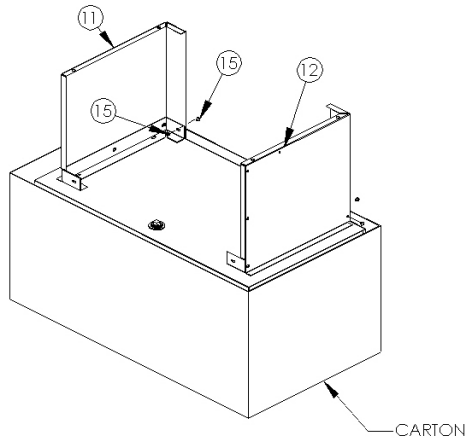

Figure 1
5. Insert two bolts at the back of each base end to hold in place. Do not tighten at this time. See figure 1.